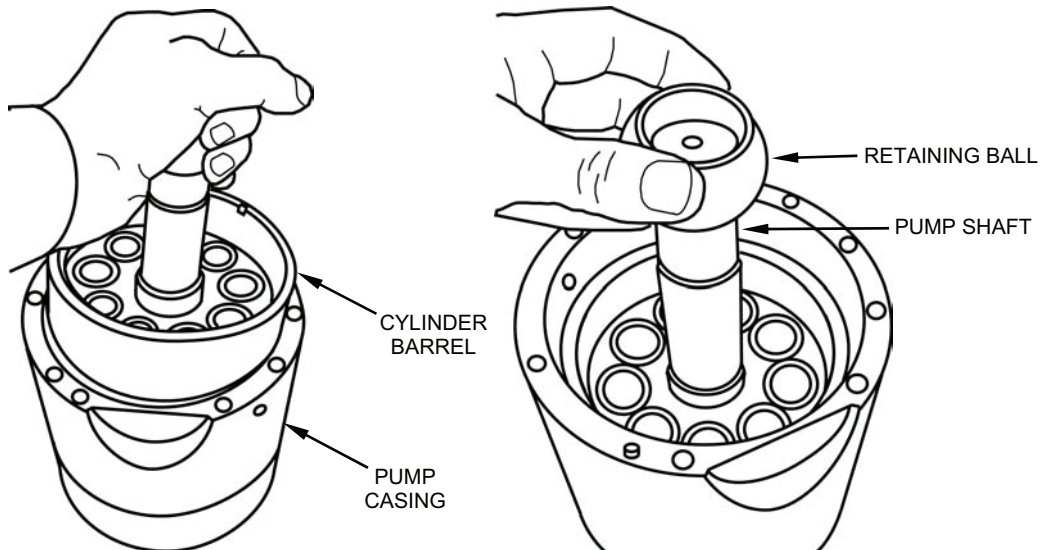

Figure 33. Installing the Cylinder Barrel and Retaining Ball.
- e. Carefully slide the cylinder barrel into the pump casing (see Figure 33).
- f. Slide the retaining ball onto the pump shaft (see Figure 33).